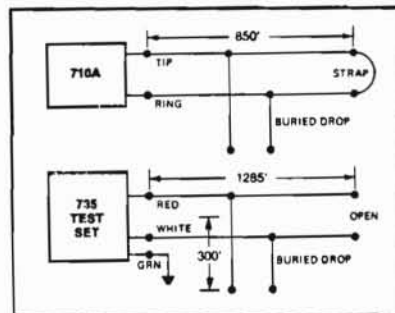

Figure 4-6. Measuring a Cable and Drop Wire with Both Test Sets.
4.09 FINDING THE LENGTH OF A BURIED DROP. See Figure 4-6.